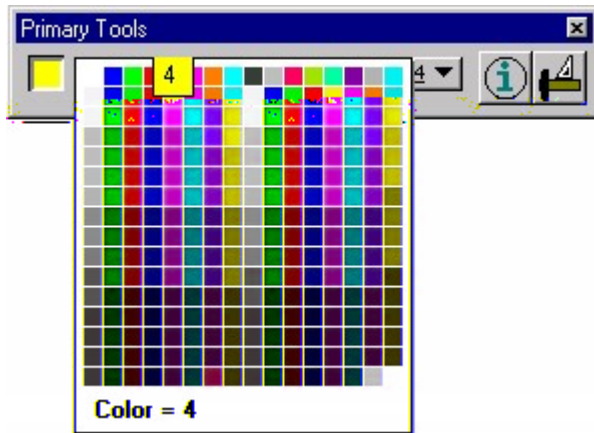

Figure 3 – Active Color Setting Dialog
- From the Primary tool bars Color option menu (Figure 3), choose the desired color value